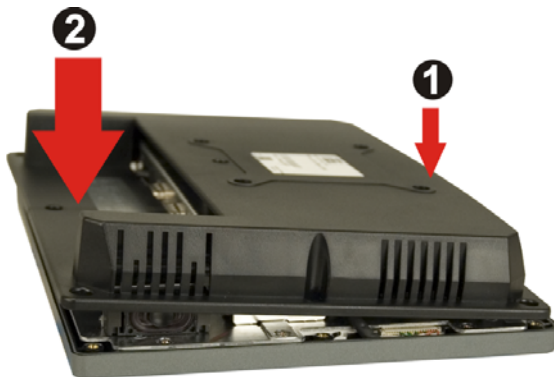

Figure 4-4: AFL-08AH-N270 Plastic Back Cover Replacement
Step 2: Replace the plastic back cover. For AFL-08AH-N270, more strength is required when pushing the bottom part of the cover down to the chassis (**Figure 4-4**).